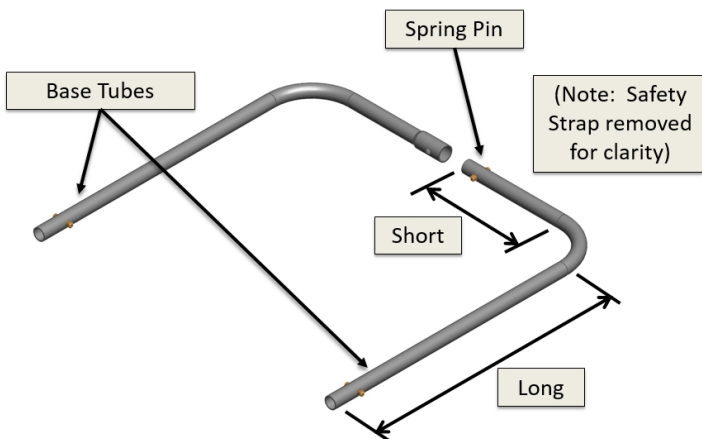

FIGURE 2
2. Connect Base Tubes together as shown in Figure 2.